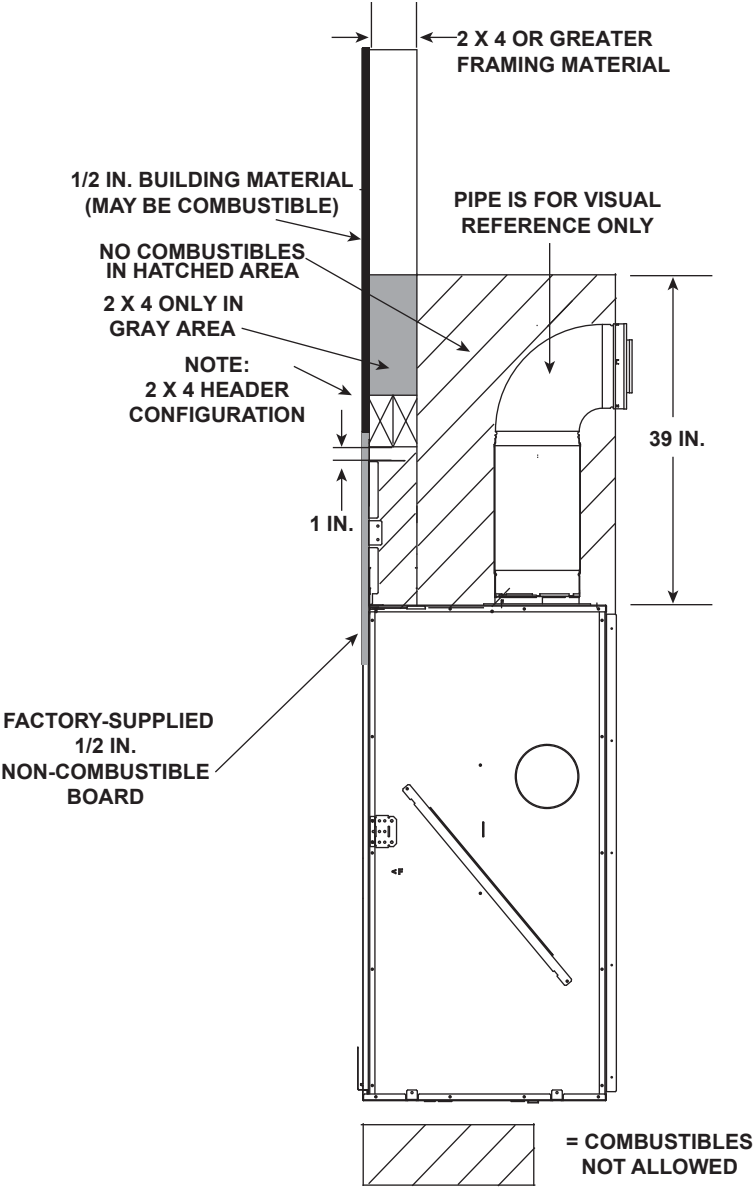

Figure 3.7 Non-Combustible Zone
**NOTE:** 2 X 4 Header positioned vertically. See also Figure 3.7.